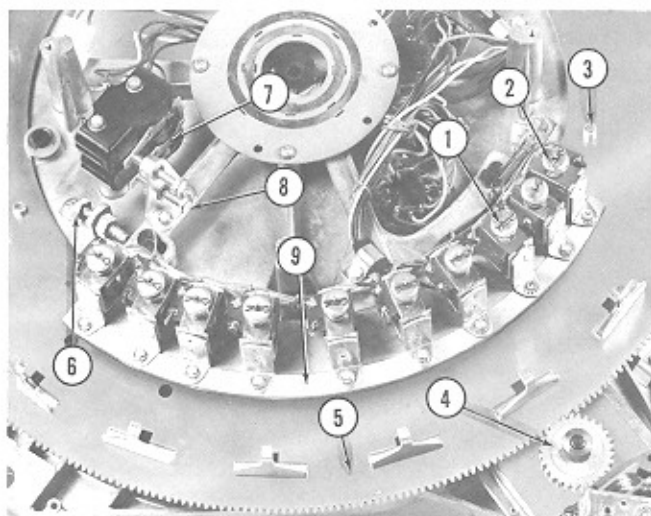
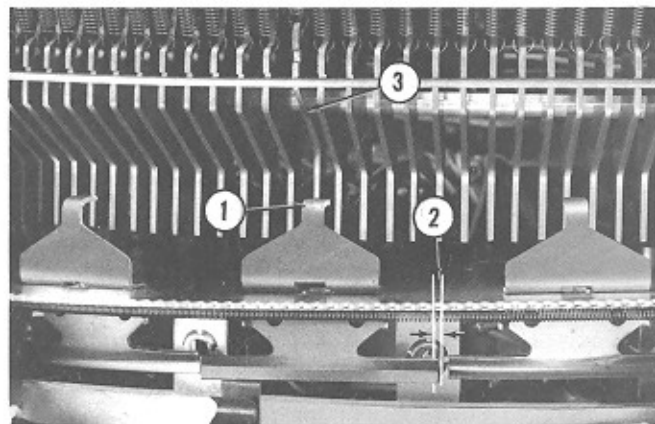
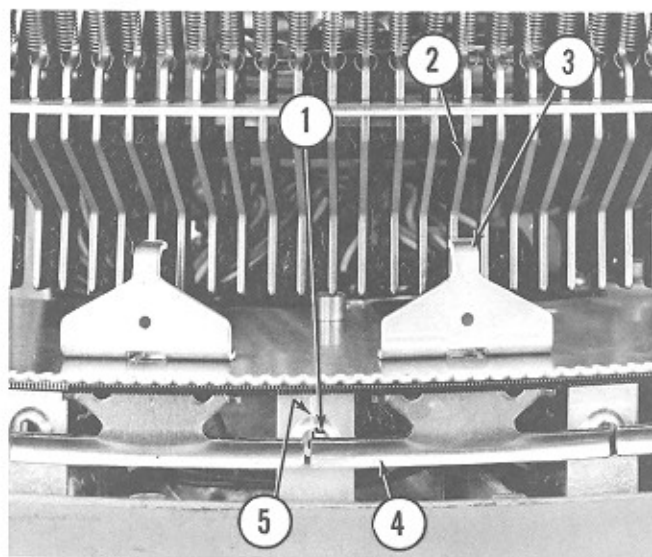

FIG. 17. ELECTRICAL SELECTOR - 2800
FIG. 18. ELECTRICAL SELECTOR - 2800
FIG. 19. ELECTRICAL SELECTOR - 2800
(1) Manually depress the No. Zero Solenoid Plunger (Fig. 17, Item 1) and turn the Rotating Plate and Rocker Arm Assembly (Item 5) in a clockwise direction by turning the nylon gear (Item 4) of the Selector Motor assembly. One of the Stop Pins (Item 3) on the rocker plate assembly, will contact the depressed solenoid plunger. Continued rotation of the nylon gear will drive the number Quadrant (Item 9) until it stops against the forward stop screw (Item 6). In this position the left edge of the Rocker Arm Tip should lead the left hand edge of the number Zero Selector Pin by 1/32" with a tolerance up to center of the Rocker Arm Tip. See Figure 18, Item 1. Check this alignment at each of the twenty
number Zero selector pins. Also check the position of the letter solenoid plungers for the safety factor of $1/32''$ to $1/16''$ as shown at Figure 18, Item 2. The forward Stop Adjusting Screw (Fig. 17, Item 6) may be set to provide correct alignment.
(2) Release the nylon gear and allow the number Quadrant to return to rest position. Repeat the forgoing steps, depressing the number One Stop Solenoid Plunger (Fig. 17, Item 2). Manually hold the number Quadrant (Item 9) in its forward position with the nylon gear (Item 4) and check the alignment of the twenty Letter Solenoid Plungers (Fig. 19, Item 1) with the rocker arm actuating bars. The number One position will be at the opposite end of the rocker arm actuating bar from the number Zero position and the left hand edge of the formed tip of the letter solenoid plungers should be flush with the left hand edge of the rocker arm actuating bars to a maximum of $1/32''$ overtravel. Also check the alignment of all number One selector pins with the tips of the twenty rocker arms. They should lead the left hand edge of the number One Selector Pins (Fig. 19, Item 2) by $1/32''$ with a tolerance up to the center of rocker arm tip.
The Start Switch (Fig. 17, Item 7) should be checked after any adjustment of the forward stop screw (Fig. 17, Item 6). It is actuated by the forward movement of the number Quadrant (Item 9) and the Adjusting Screw (Fig. 17, Item 8). It is important that this switch operate at its specified time for trouble free phonograph performance. The following method may be used to adjust the start switch:
Manually hold a number solenoid plunger depressed. Turn the Rotating Plate and Rocker Arm Assembly in a clockwise direction by turning the Selector Motor Nylon Gear (Fig. 17, Item 4) until the number Quadrant (Item 9) rests against the
forward Stop Screw (Item 6). Hold the number Quadrant firmly in position with the nylon gear and back out the adjusting Screw (Fig. 17, Item 8) until the switch is in its normally open position. Turn the Adjusting Screw (Item 8) in until the Start Switch actuates plus one full turn for overtravel.